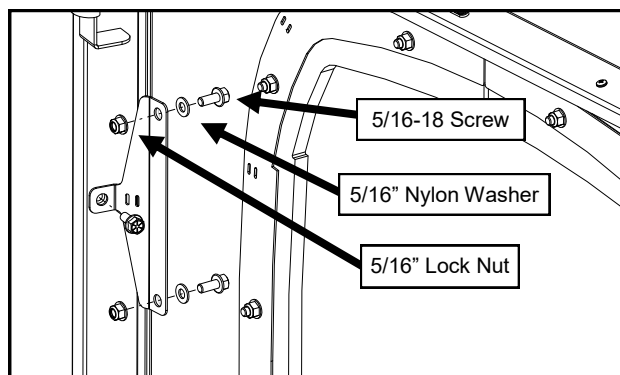

Fig. 9.2 (Cowl Bracket Orientation)
- 9.2 Install the left side cowl bracket. See figure 9.2.